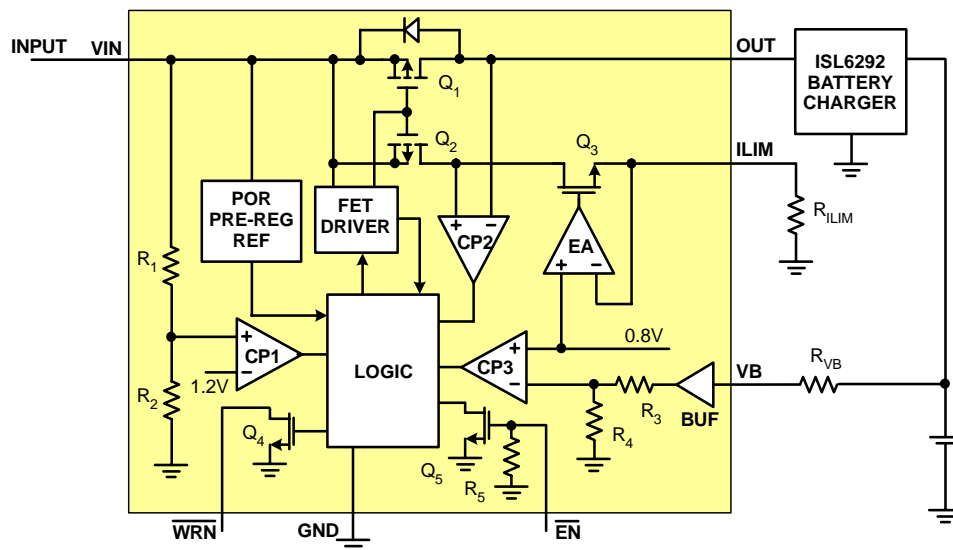
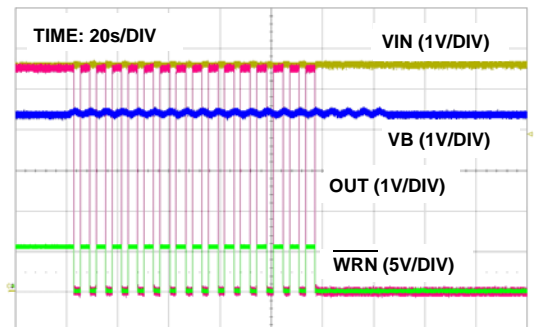

FIGURE 1. BLOCK DIAGRAM
FIGURE 7. BATTERY OVERVOLTAGE PROTECTION. THE IC IS LATCHED OFF AFTER 16 COUNTS OF PROTECTION. VB VOLTAGE VARIES BETWEEN 4.3V TO 4.5V
The input voltage is monitored by the comparator CP1 in the "Block Diagram" on page 3 (Figure 1). CP1 has an accurate reference of 1.2V from the bandgap reference. The OVP threshold is set by the resistive divider consisting of  $R_1$  and  $R_2$ . The protection threshold is set to 5.85V. When the input
The battery voltage OVP is realized with the VB pin. The comparator CP3, as shown in Figure 1, monitors the VB pin and issues an overvoltage signal when the battery voltage exceeds the 4.34V (nominal) battery OVP threshold. The threshold has 30mV built-in hysteresis. The comparator CP3 has a built-in 180μs blanking time to prevent any transient voltage from triggering the OVP. If the OVP situation still exists after the blanking time, the power PFET is turned off. The control logic contains a 4-bit binary counter that if the battery overvoltage event occurs 16 times, the power PFET is turned off permanently, as shown in Figure 7. Recycling the input power or toggling the enable (EN) input will reset the counter and restart the ISL9209C.
The current in the power PFET is limited to prevent charging the battery with an excessive current. The current is sensed using the voltage drop across the power FET after the FET is turned on. The reference of the OCP is generated using a sensing FET ( $Q_2$ ), as shown in Figure 1. The current in the sensing FET is forced to the value programmed by the ILIM pin. The size of the power FET ( $Q_1$ ) is 31,250 times the size of the sensing FET. Therefore, when the current in the power FET is 31,250 times the current in the sensing FET, the drain voltage of the power FET falls below that of the sensing FET. The comparator CP2 then outputs a signal to turn off the power FET.